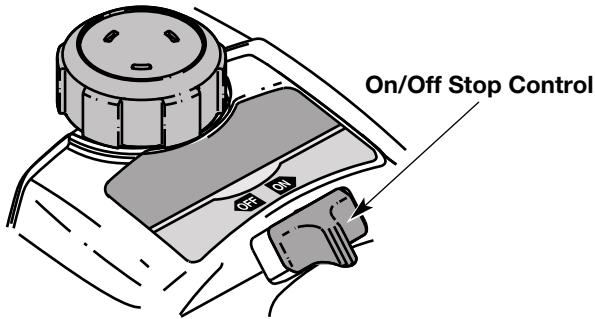
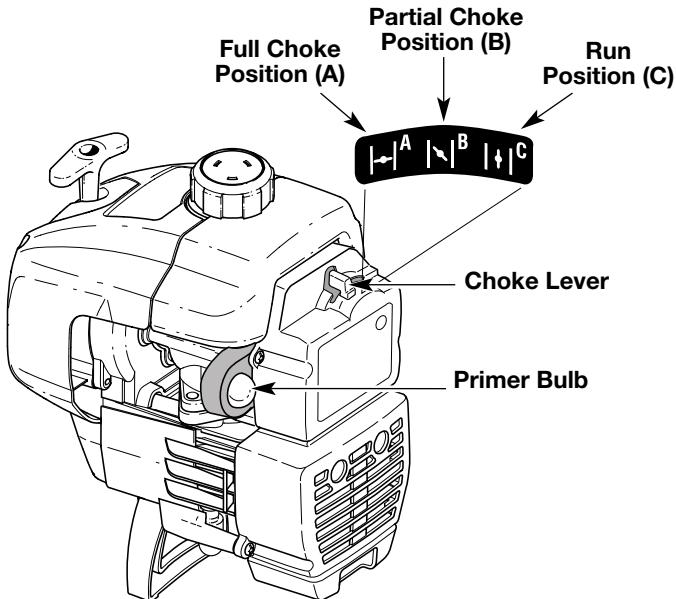

Fig. 4
Fig. 5
2. Put the On/Off Stop Control in the **ON** position (Fig. 4).
3. Fully press and release primer bulb slowly 5 to 7 times. Fuel should be visible in the bulb (Fig. 5). If fuel is not visible, press three (3) more times, or until it is.
4. Place the choke lever in the **FULL** choke position (**A**) (Fig. 5).
6. Place the choke lever in the **PARTIAL** choke position (**B**) (Fig. 5).
NOTE: If the engine floods while trying to start, place the choke lever in the **RUN** position (**C**) (Fig. 5). Squeeze the throttle control. Pull the starter rope briskly. The engine should start within three (3) to eight (8) pulls.
9. Squeeze the throttle control to warm up engine for 5 to 10 seconds. Place the choke lever in the **RUN** position (**C**) (Fig. 5).
NOTE: Choking is unnecessary when starting a warm engine. Put the On/Off Stop Control in the **ON** position (Fig. 4), and start in **PARTIAL** Choke position (**B**) (Fig. 5).
2. Put the On/Off Stop Control in the **OFF** position (Fig. 4).